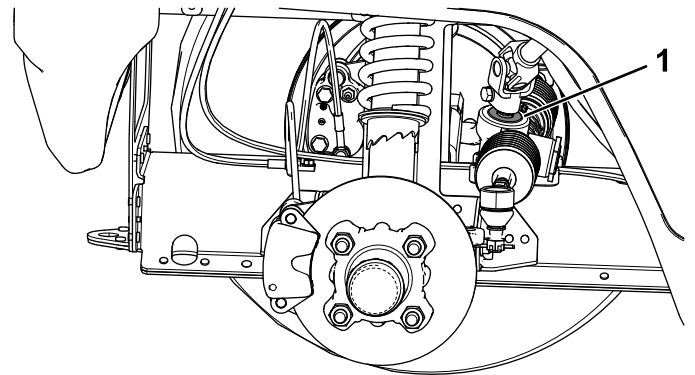

Figure 49
**Important:** Inspect the condition and security of the pinion-shaft seal (Figure 49).